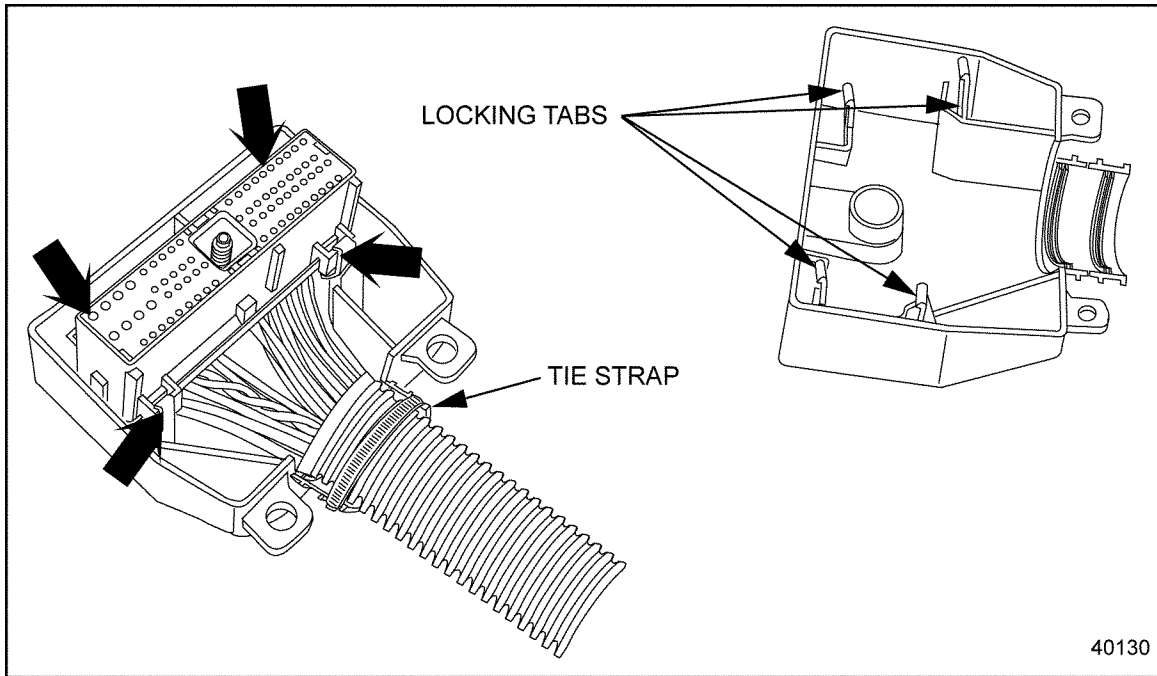

Figure 3-17 Tyco Connector and Locking Tabs
4. Secure the harness in the shroud neck with two tie wraps (see Figure 3-17).
2. Remove the connector from the shroud by pushing the four locking tabs (arrows) back from the connector. Use the screwdriver to push back the tabs closest to the shroud wall (see Figure 3-17).